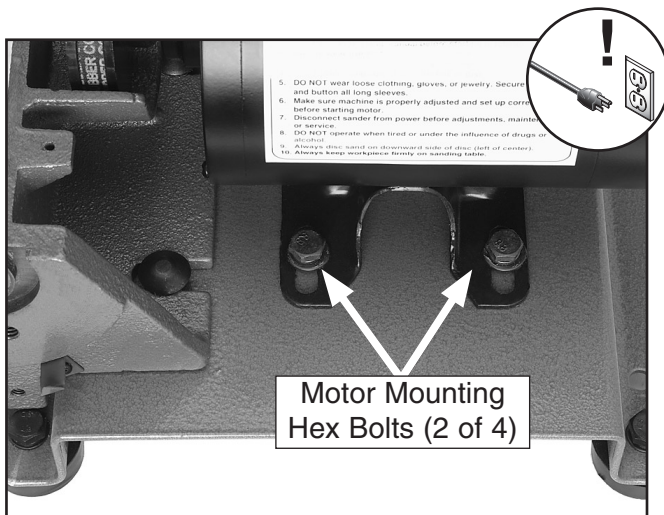

Figure 6. Motor mounting hex bolts (2 of 4, viewed from top).
1. Using 13mm wrenches, loosen the four motor mount hex bolts (**Figure 6**) so you can adjust the motor position in the next steps.